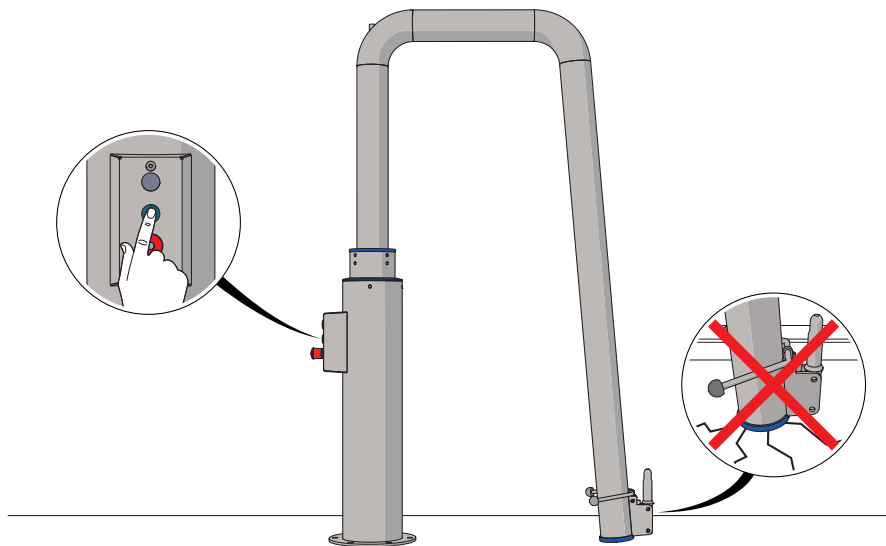

Figure 13 - The pool lift in rest position
2. Lower the pool lift (see §3.1) until the lift pin gently touches the floor (see figure 13).